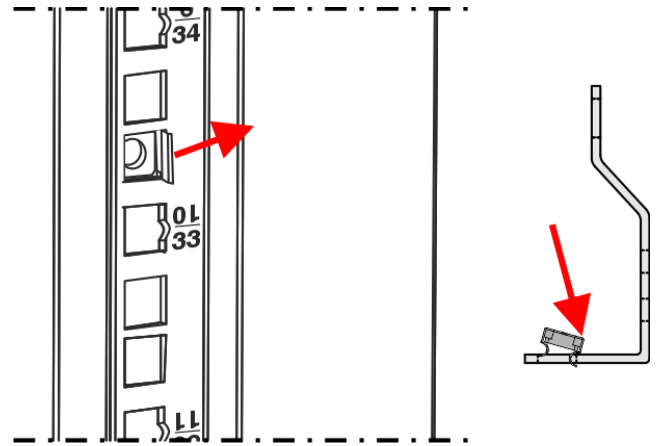

Fig. 44
- 02) Insert one side of the **cage nut (L)** into the **vertical bracket (F)**, as shown in Fig. 44.